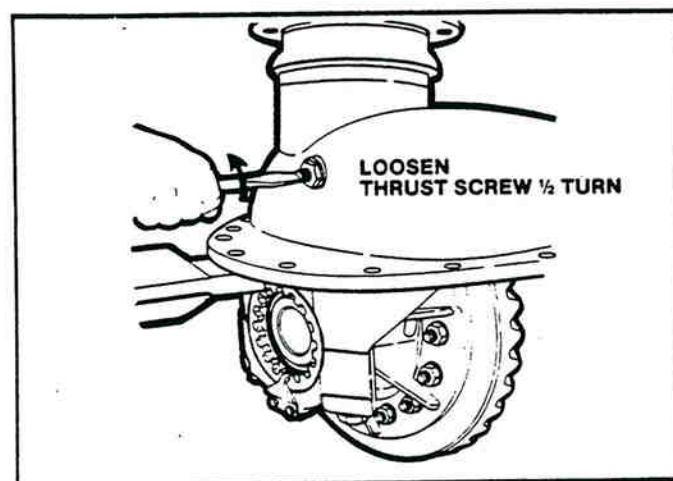

Figure 2-99. Adjusting Thrust Screw.
3. Loosen the thrust screw $\frac{1}{2}$ turn, 180° (Figure 2-99).